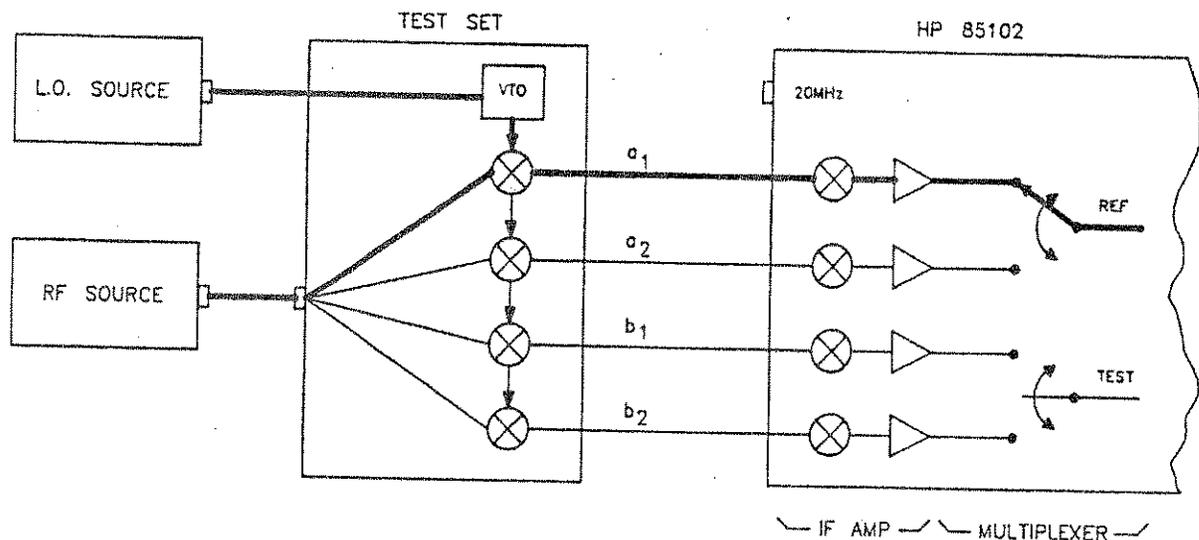
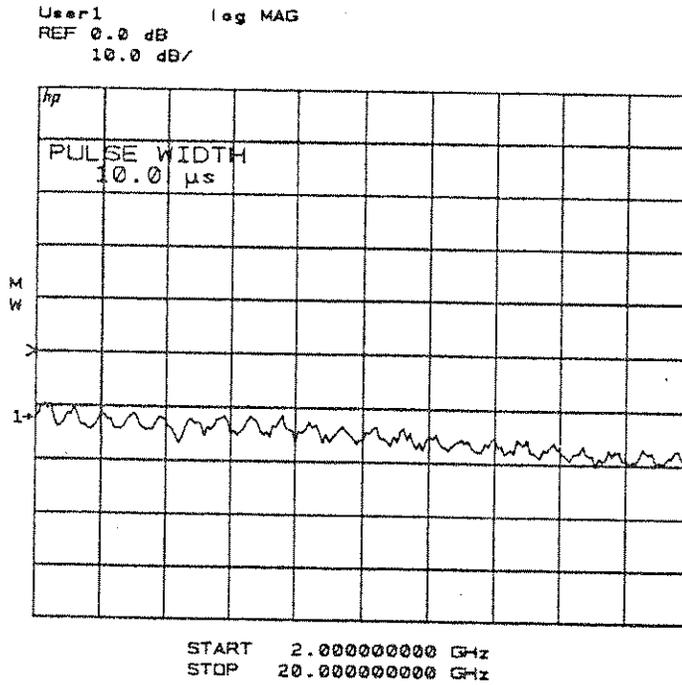
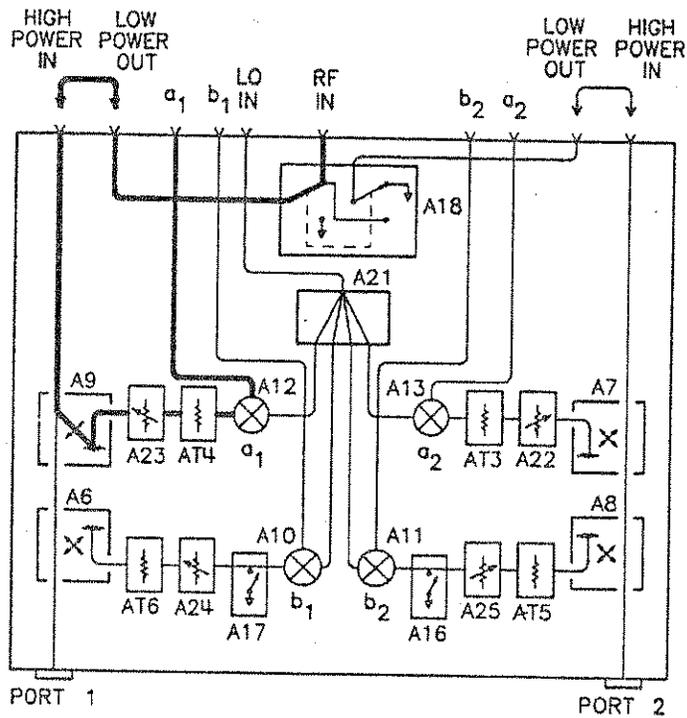
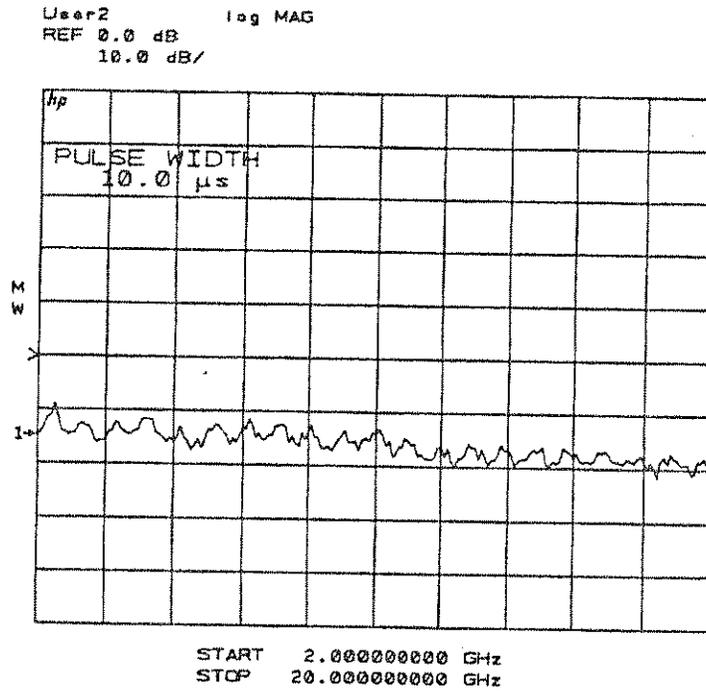

Figure 5-2. Simplified Signal Path of Unratioed Power Test
Figure 5-3. Typical a1 Path Signal Trace
Figure 5-3a. a1 Signal Path
Figure 5-4. Typical b2 Reflection Signal Trace
Figures 5-2, 5-4, and 5-5 show which assemblies are included in the signal path of each channel. Realizing that some assemblies are common to two, or all four channels is a powerful troubleshooting tool. Figure 5-3 shows some typical transmission and reflection traces.
5. Refer to Figure 5-3. Press [User 1 a1] and observe the a1 mixer power level. It should be within +5 dB of that shown in the figure. Likewise press [User 2 b2], [User 3 a2], and [User 4 b1]. In each case, the mixer power should be within +5 dB of that shown in Figures 5-4 through 5-6. If it is not, then refer to the procedure titled *If Any User Channels Look Bad* at the end of this section. Figures 5-3a, 5-4a, 5-5a, and 5-6a identify the RF signal paths and components which affect each path for each user definition.